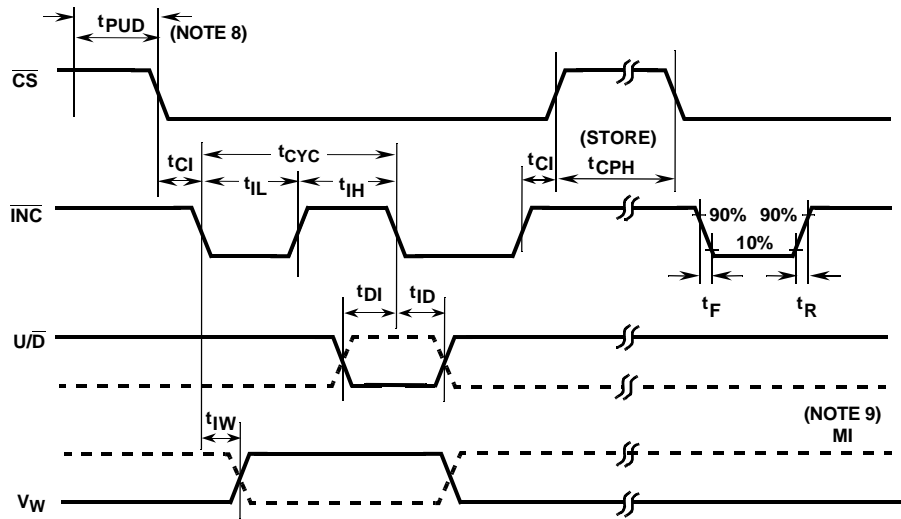

FIGURE 3. ISL45001, ISL45002 TIMING DIAGRAM
- 9. MI in the AC Timing diagram (Figure 3) refers to the minimum incremental change in the wiper output due to a change in the wiper position.